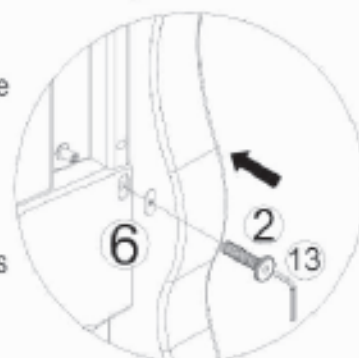

Figure 18.
2. Attach 4pcs Bolts (2) and 4pcs Iron Plates (6) and 4 pcs Caps to Fill of the holes. See Figure 18.